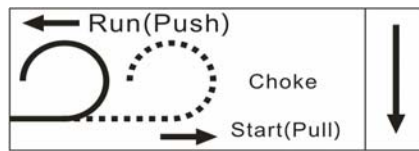

Figure 7- Pull choke out for **Start** position. Push in for **Run** position.
5. Move the choke rod to the “Start” position (see figure 7).
5. Move the choke lever to the “Start” position (see figure 7).